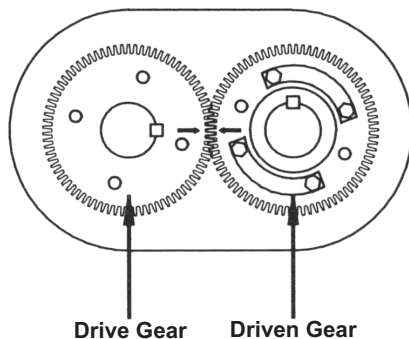
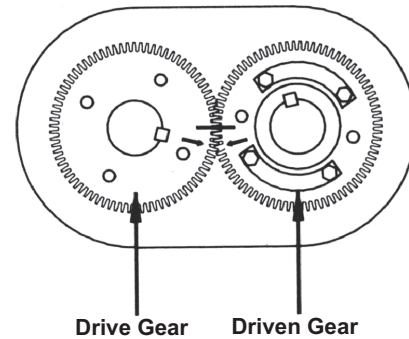

Figure 6-4 – Timing Marks Matched
Figure 6-5 – Timing Marks Advanced 3 Teeth (Reference Marks Matched)
6. Install the gear key into the keyway of each rotor. Make sure the keyways are in the correct position for the timing gears, as shown in **Figure 6-4**.
Press the timing gear assembly onto the rotor with the timing marks aligned on the gear as shown in **Figure 6-5**.
Remember to place timing marks on center and match when removing or installing a gear (**see Figure 6-4 and Figure 6-5**).